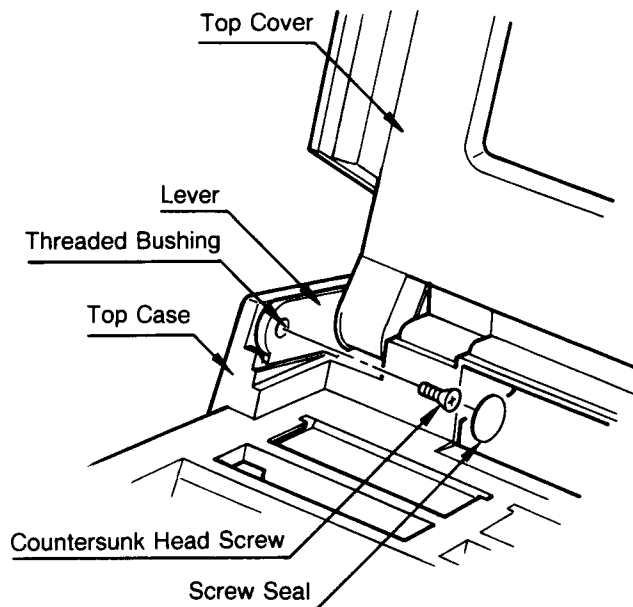

Figure 2-2. Lever Disengagement
- (2) Turn over the unit to the normal position and lift the Top Cover (LCD).
- (3) Peel off two screw seals on both sides and remove the screws. (Figure 2-2)
- (4) Push the ends of the Threaded Bushings with a pointed tool to let them disengage with the Levers.